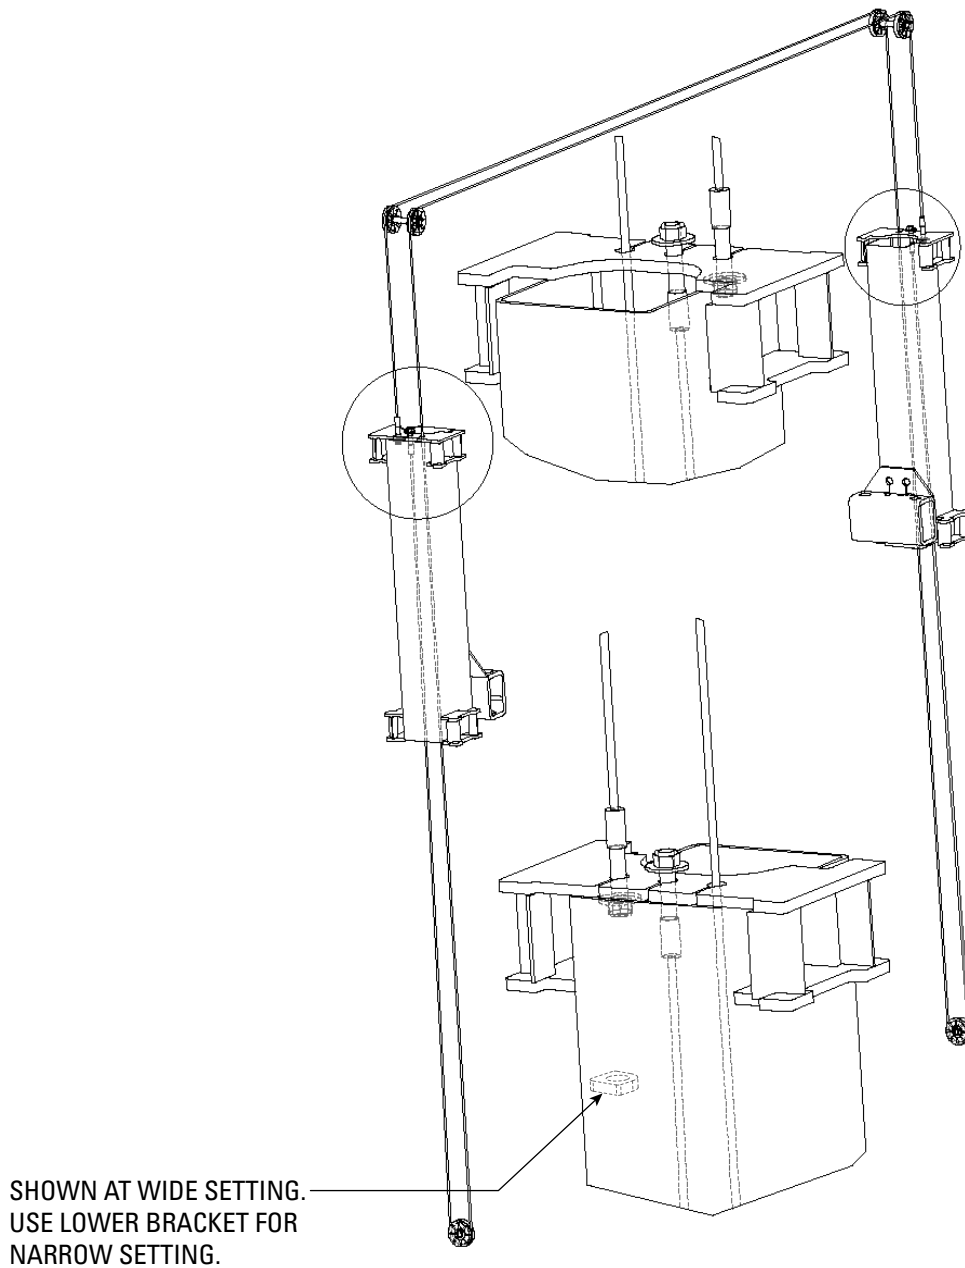

Figure 10
10. Routing carriage equalization cables and offside hose, Figure 10.
- B. One end of each cable should already be attached to each carriage. Feed the other end of the cable up through the top of the leg as shown, Figure 10,